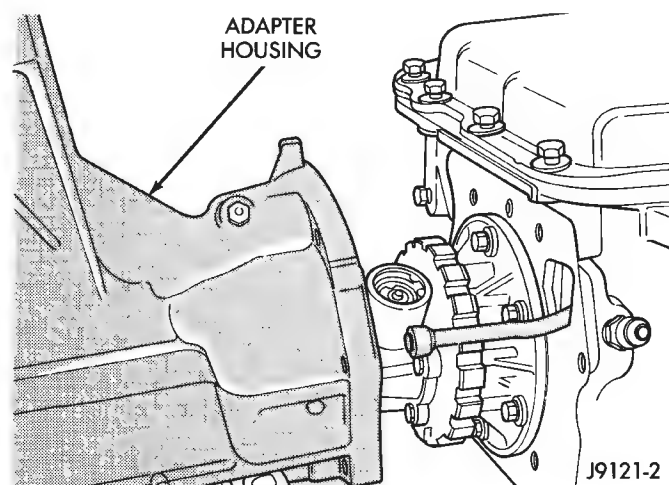

Fig. 2 Adapter Housing Removal/Installation (4 x 4 Models)
(4) Remove nuts attaching adapter, or extension housing to transmission case.
(5) Remove adapter/extension housing and gasket (Fig. 2).
(6) Remove rear bearing and snap ring, if equipped.